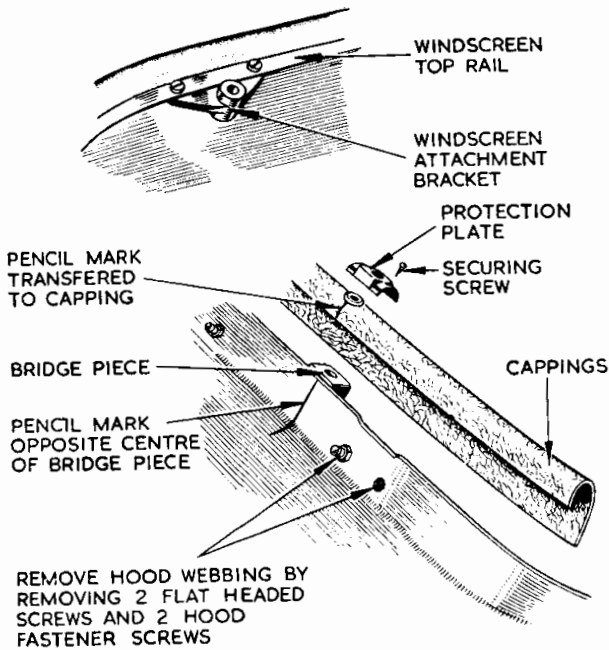

Fig. 1 Marking and fitting Rear Cappings.
- (b) Release the hood webbing at the rear by removing the two flat headed screws and the two hood fastener screws. (Fig. 1.)
(d) Remove the windscreen attachment brackets from the "Hard Top" and finally secure to the underside of the windscreen top rail by six chromium plated screws and lock washers. (Fig. 1.)